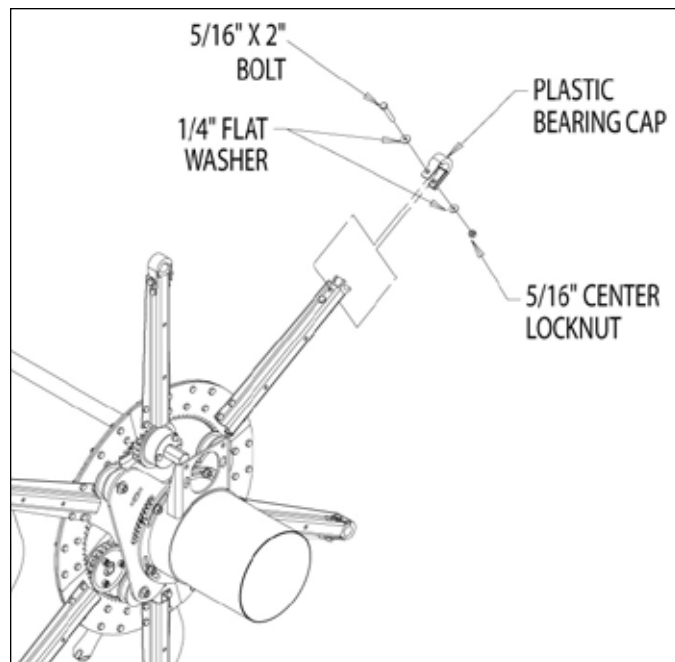

Figure 19, Remove plastic bearing caps
1. Remove the plastic bearing caps from the bat arms by removing one 5/16" x 2" bolt, one 5/16" center locknut and two 1/4" flat washers per each arm (Figure 19).